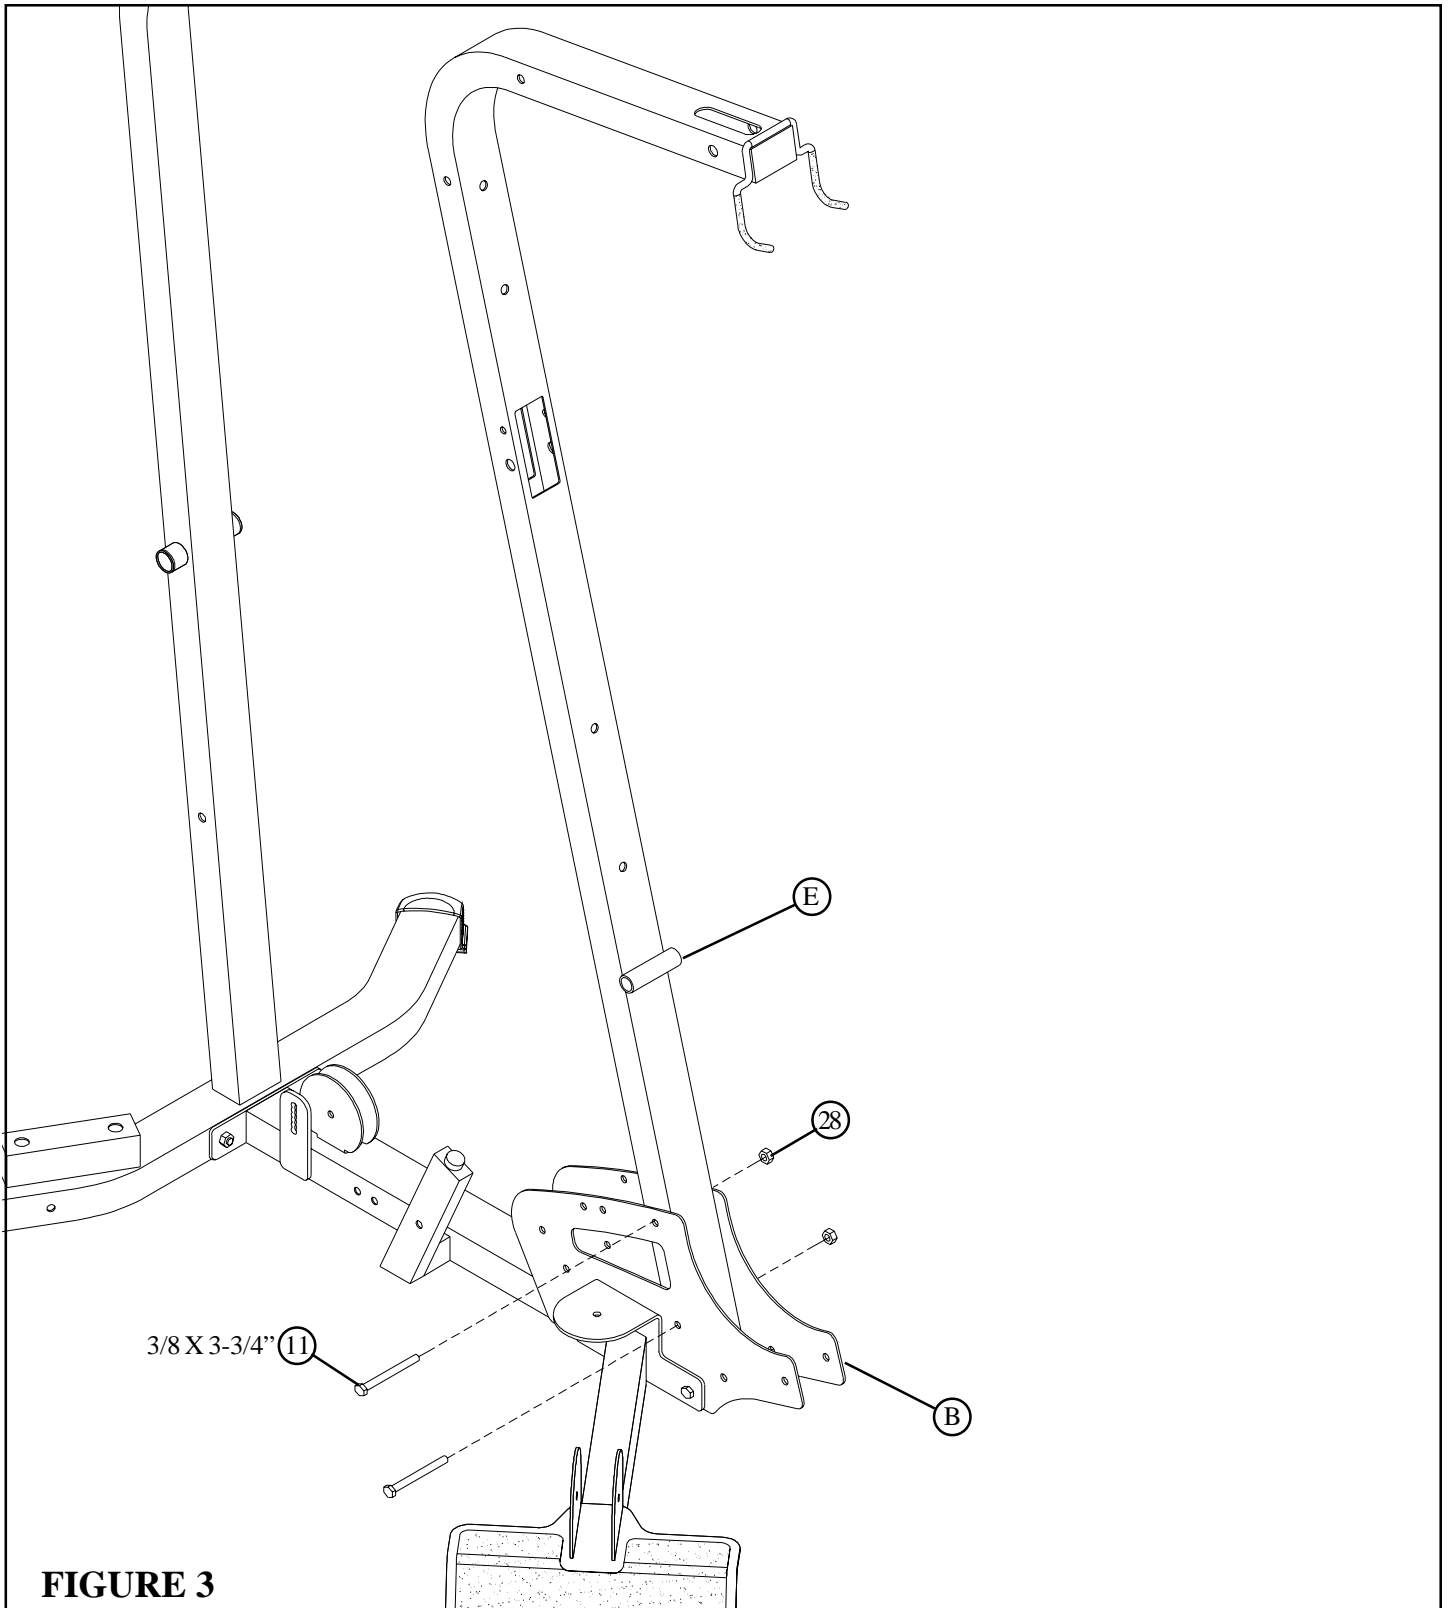

FIGURE 3
- **SECURELY** assemble the FRONT FRAME (E) to the BASE PLATES (B) using two 3/8 X 3-3/4" BOLTS (11) and two 3/8" LOCK NUTS (28) as shown in FIGURE 3.